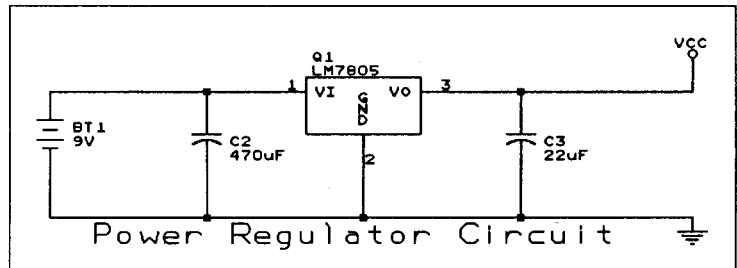

Figure 4-1. Power regulator circuit schematic.
Figure 4-1 shows the schematic diagram of the power regulator circuit you create in this chapter. Refer to this figure for placement and orientation information while performing the exercise.
4. By now you should be experienced at placing parts. Get the capacitor and place one on each side of the regulator, as shown in figure 4-1.
5. Now get the ground symbol (GND) and place it in the location shown in figure 4-1.
3. If you look closely at the part, you'll notice that one end of the part has a long heavy line as part of the border. The other end has a shorter heavy line as part of the border. The long heavy line indicates the positive terminal of the battery. As shown in figure 4-1, you want the positive terminal up, so rotate the symbol to this orientation (**Down**), and place it on the worksheet.
Compare your worksheet with figure 4-1. Notice that several wires are missing from your worksheet.
7. Now, connect wire segments between the remaining parts as shown in figure 4-1. Be sure to **Begin** and **End** each wire segment at the end of a part pin, not within the body of the part.
8. Using the **PLACE Junction** command, place junctions in the circuit at the five locations shown in figure 4-1.